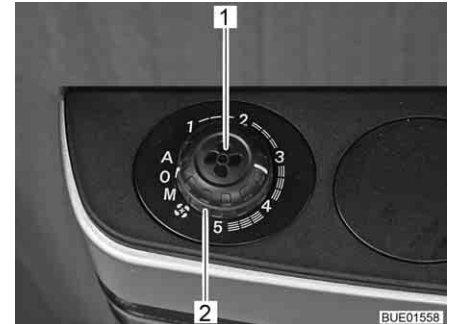

Fig. 145 Knob and rotary switch for fan control
- Set the rotary switch (Fig. 145,2) to the required operating mode.
- Turn the rotary switch (Fig. 145,2) to "0".